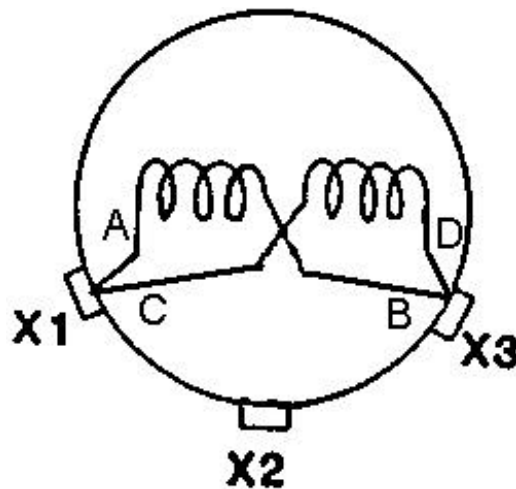

Figure 2, Parallel Connection
- For a parallel connection, see Figure 2.